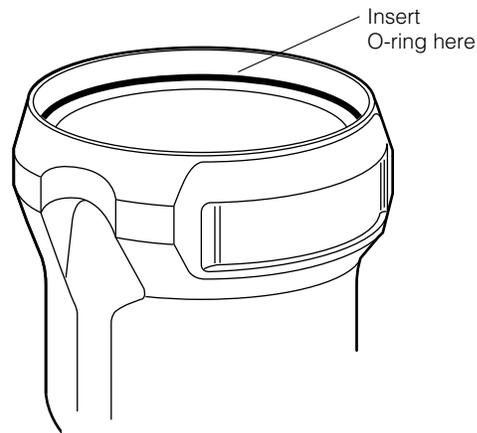

Figure 10. Proper Placement of O-Ring
3. Place the O-ring on the ledge inside the bucket (see Figure 10).